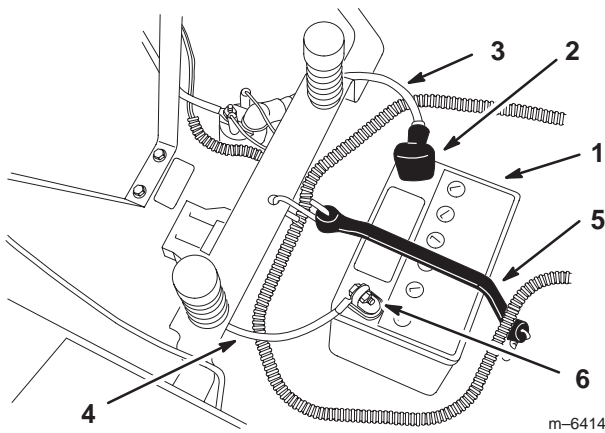

Figure 35
- Disconnect the negative (black) ground cable from the battery post (Fig. 35).
- Slide the rubber cover up the positive (red) cable. Disconnect the positive (red) cable from the battery post (Fig. 35).
- Remove the battery hold-down (Fig. 35) and lift the battery from the battery tray.
- Position the battery in the tray with the terminal posts away from the control panel (Fig. 35).
- Secure the cables with 2 bolts (1/4 x 3/4 inch), washers (1/4 inch), and nuts (1/4 inch) (Fig. 35).
- Secure the battery with the hold-down (Fig. 35).